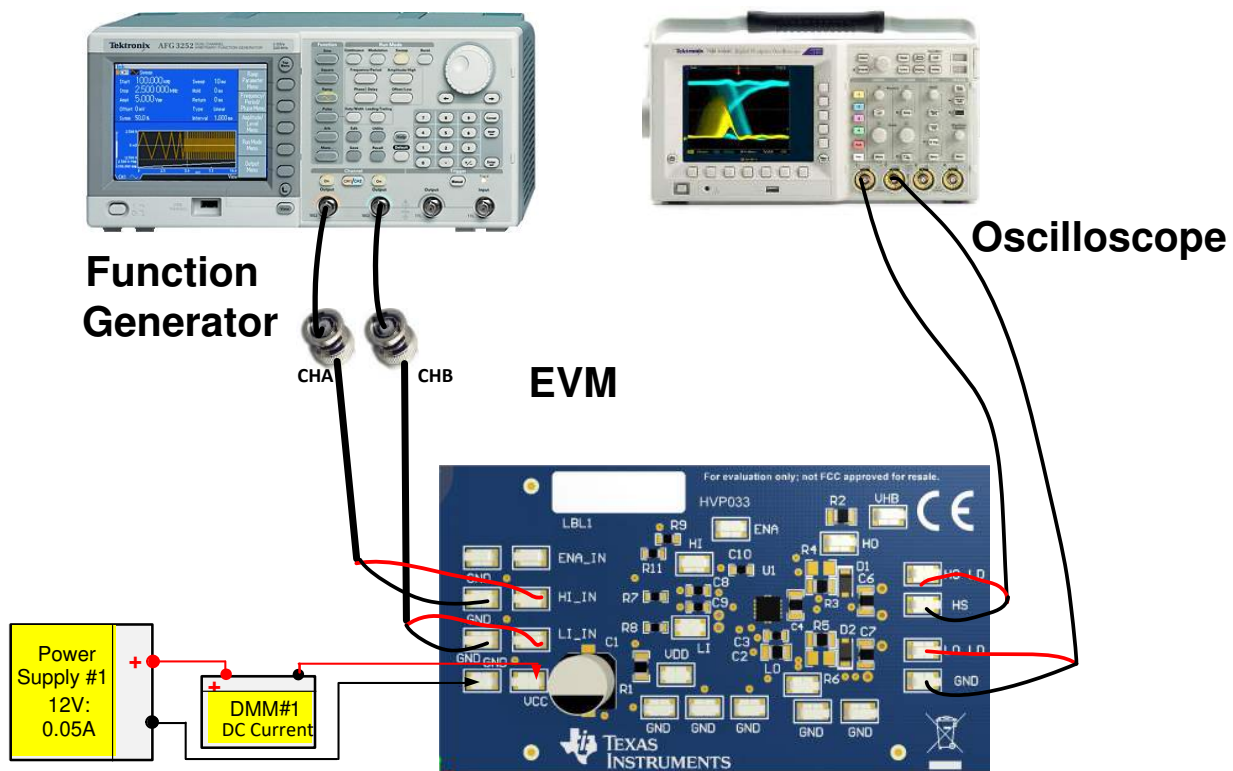

Figure 1. Bench Setup Diagram and Configuration
This procedure details how to configure the LM5108EVM evaluation board. Within this test procedure, the following naming conventions are applied. Refer to the LM5108EVM *Bench Setup Diagram and Configuration*, Figure 1, for details.
Use the following connection procedure, refer to Figure 1.
1. Before beginning the power up test procedure, verify the connections with Figure 1.